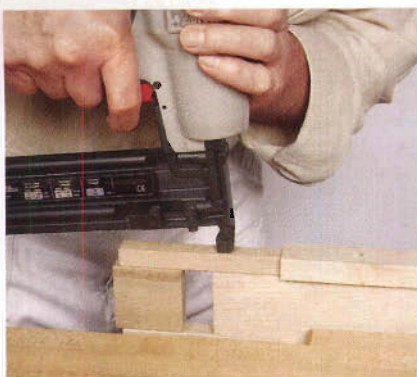

Figure 14. The hidden parts of the joint can be reinforced with staples. A dowel is better.
Step 13: Peg the extension strips. I have no laboratory or field tests to prove how necessary or effective these reinforcements might be, but they feel right. You can staple the hidden area (see Figure 14), or you can use a dowel to peg the extensions to the stretcher rail and the mortise block. It's important to use a Forstner bit to make the 1 1/4" deep hole. Drizzle some glue into the hole and wet the end of the dowel. Push the dowel home hard to force glue from the bottom of the hole. Twist the dowel to wet the walls of the hole. Saw off the dowel and clean up with a chisel. (See Figure 13.)